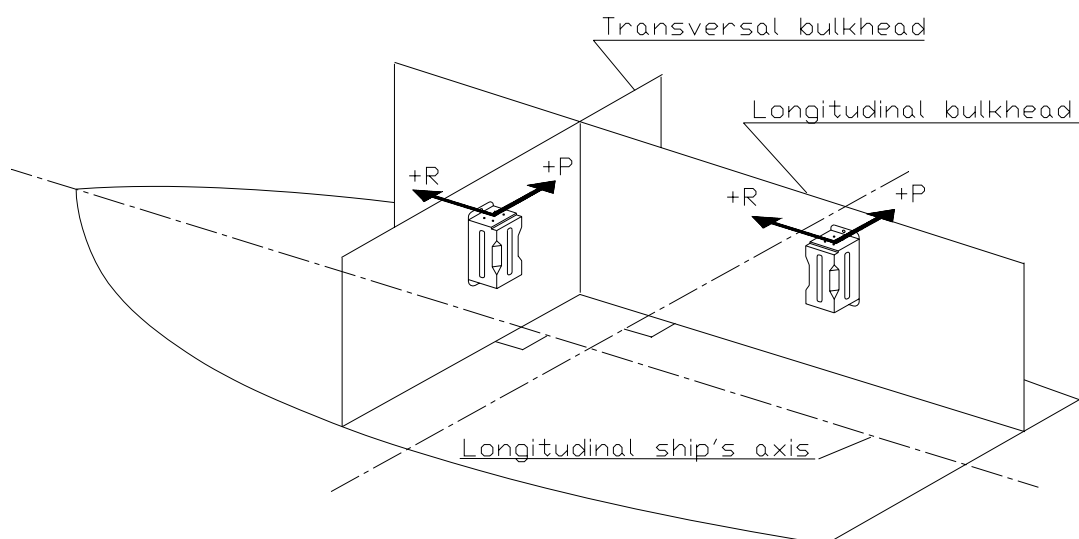

Figure 5 Recommended orientation of the MRU mounting bracket
1. When the best mounting location for the MRU has been identified, place the MRU mounting bracket in the preferred orientation and make screw holes in the foundation. If the orientation of the bracket can be freely selected, mount the bracket on the longitudinal or transversal bulkheads of the ship with the opening pointing downward, as shown in Figure 5. This will ensure easy and accurate orientation of the MRU according to the longitudinal axis. Reserve sufficient space below the bracket to allow insertion of the MRU from below.
3. Insert the MRU into the bracket. In order to achieve the orientation as shown in Figure 5, the MRU must be rotated in the bracket. Apply Loctite 242 glue or equivalent on the four MRU screws (3).